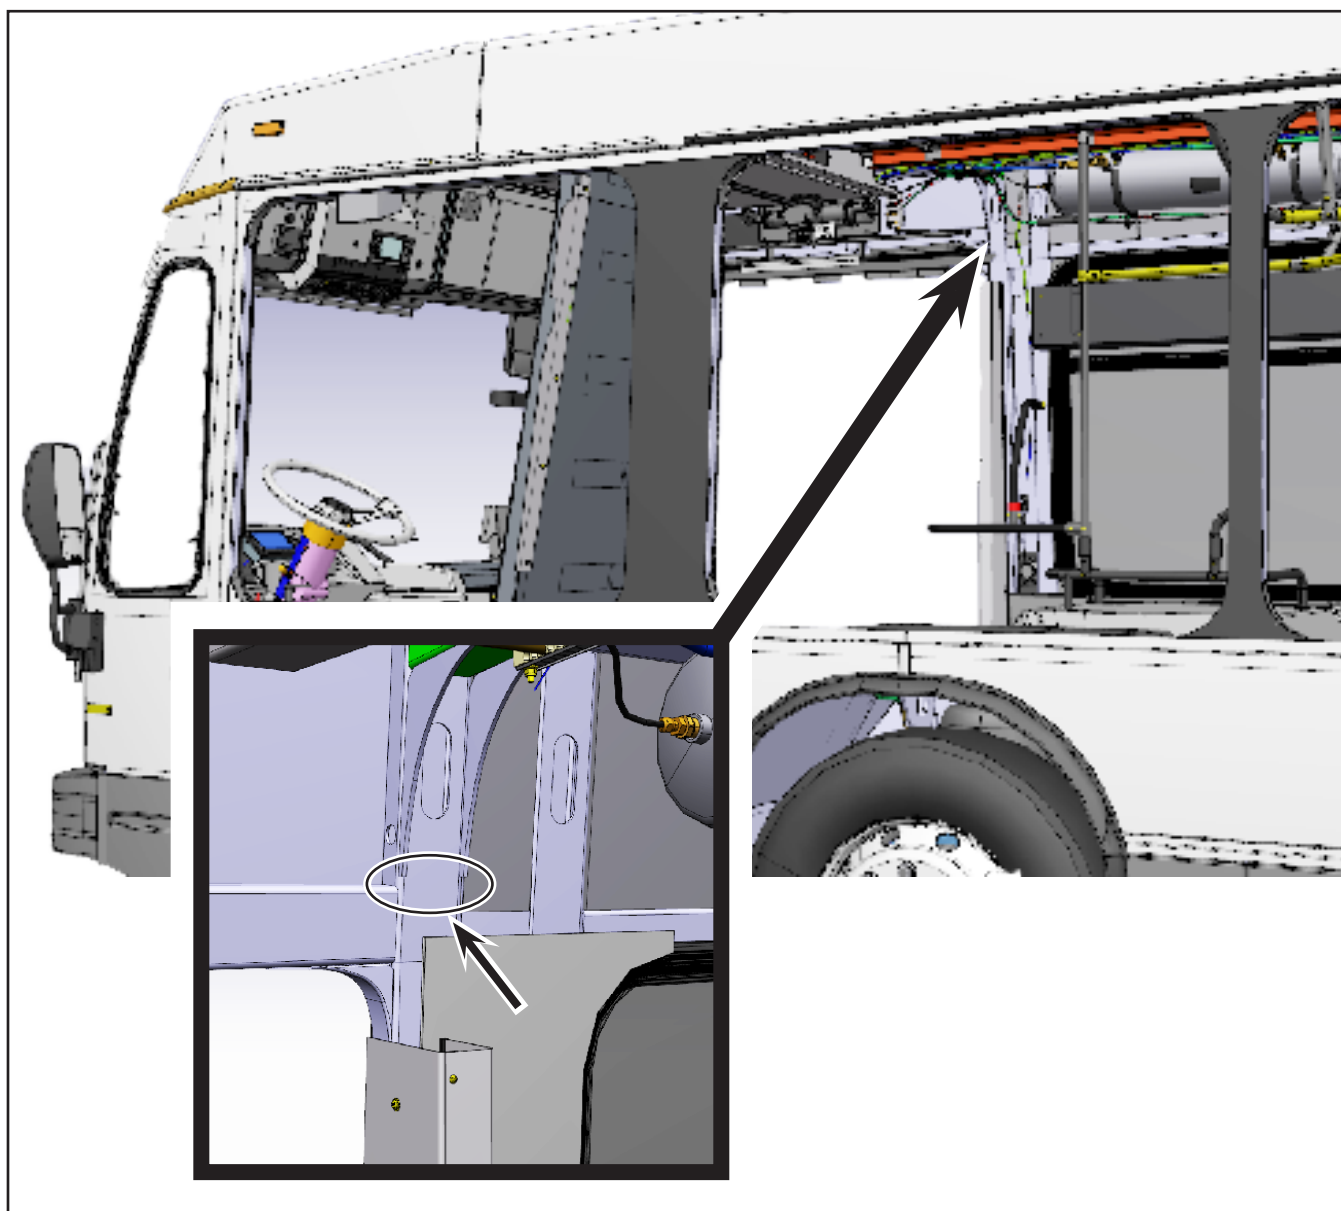

Figure 1 - Possible Crack Location
- 1.17. Inspect the area shown in Figure 1. If a crack is found, make 1/8 in. stop holes at one or both ends if possible.